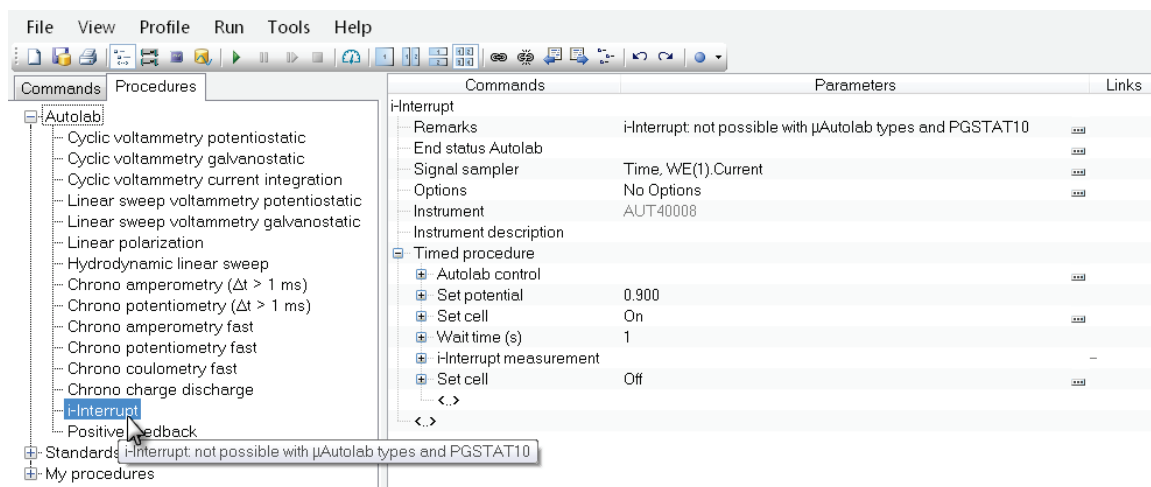

Figure 7 – NOVA i-Interrupt procedure
1. Start up NOVA, select Setup View and select the Procedures tab (see Figure 7).